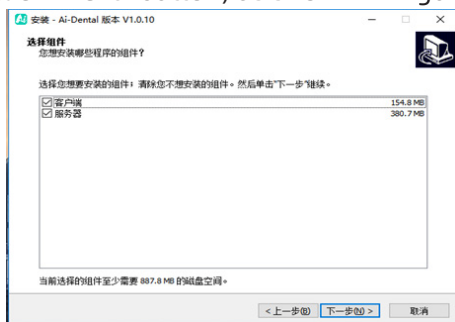

Figure 7
5. Select components: The user checks the checkboxes of corresponding components as required. After selecting the components, click "Next" button, as shown in Figure 7: